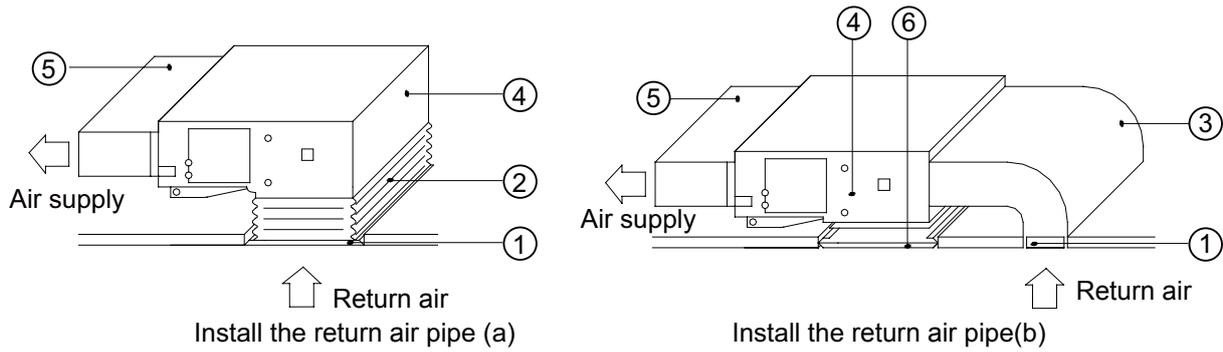

Fig.12
- (2). If downward return air is desired, just change the place of the rectangular flange and the return air cover plate.
- (3). Connect one end of the return air duct to the return air outlet of the unit by rivets and the other to the return air louver. For the sake of convenience to freely adjust the height, a cutting of canvas duct will be helpful, which can be reinforced and folded by 8 # iron wire.
- (4). More noise is likely to be produced in the downward return air mode than the backward return air mode, so it is suggested to install sound insulation and a plenum box to minimize the noise.
- (5). The installation method can be chosen with considering the conditions of the building and maintenance etc., as shown in Fig.12.